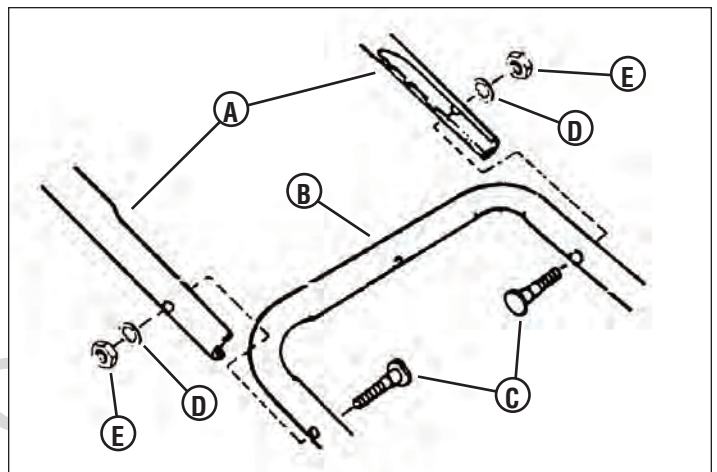

Figure 3
4. Attach the upper handle assembly (A, Figure 3) to the middle handle (B) using two 5/16-18 x 1-1/2" curved head bolts (C), installed from the inside of handles as shown, and securing with 5/16 internal tooth lock washers (D) and hex nuts (E). Tighten securely.